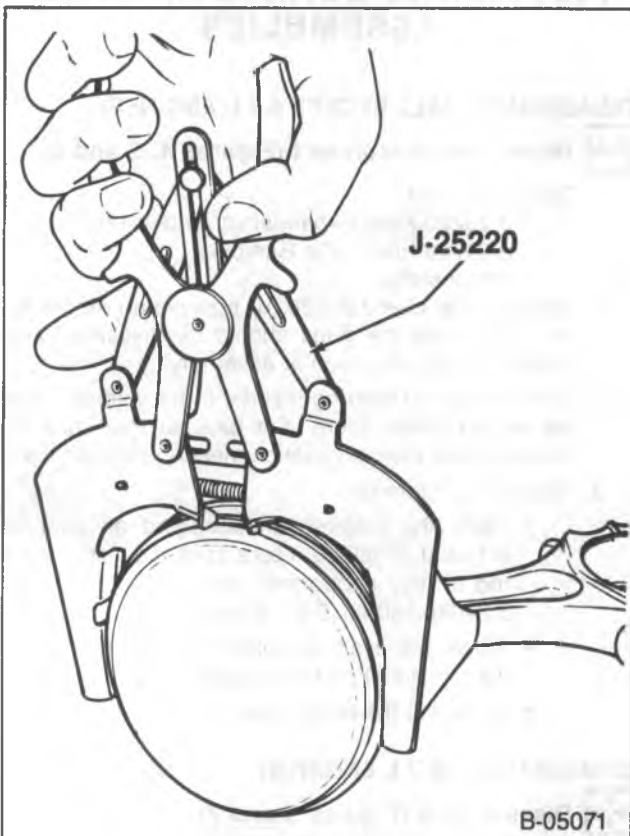

Figure 5—Removing the Piston Rings
1. Piston rings. Use J 25220 (or equivalent) (figure 5). In most cases the rings should be discarded and replaced with new ones at assembly.
**Disassemble (Figures 5 and 7)**
1. Piston rings. Use J 25220 (figure 5).